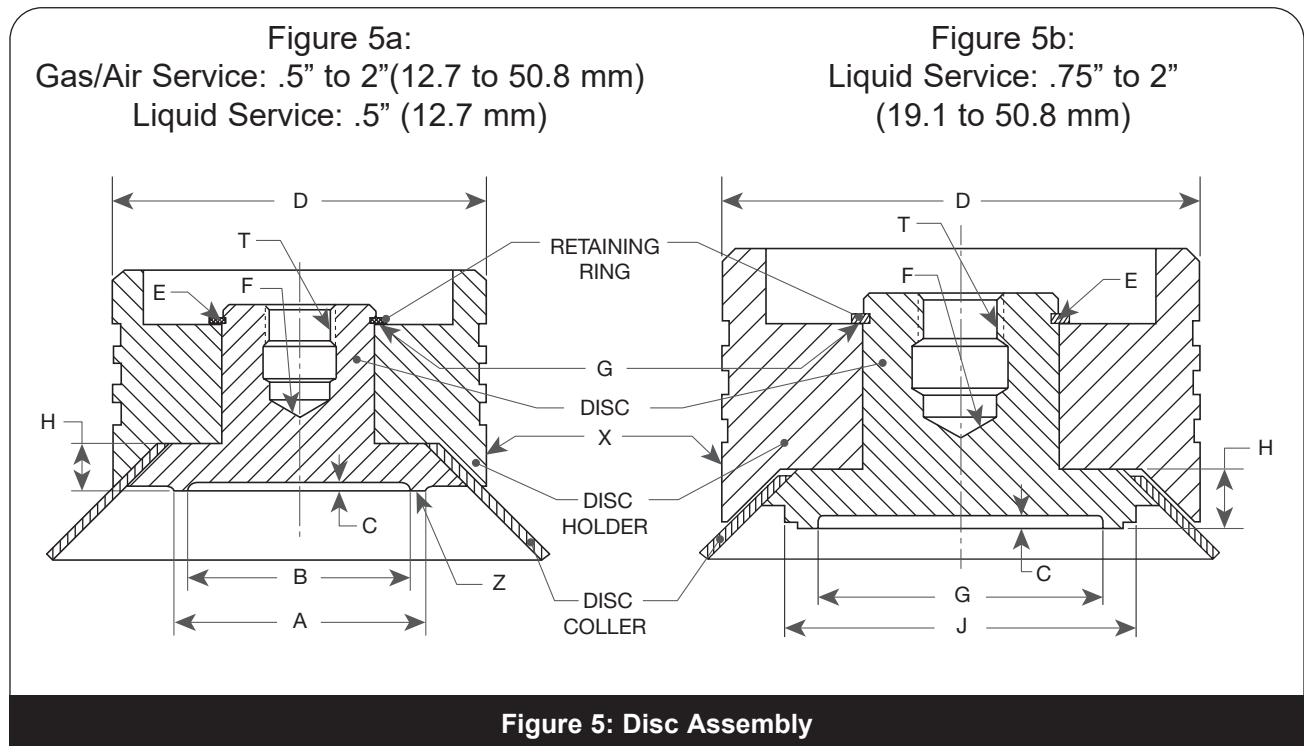

Figure 5: Disc Assembly
When the seats cannot be repaired by lapping, they can be remachined using dimensions given in Figure 5 and Table 1. The following procedure can be used when machining the base seat:
- Take light cuts on the seat surface until all damage is removed. Reestablish dimensions as shown in Figure 5 and Table 1.
2. Disc Holder Replacement criteria, Figure 5 and Table 1
- Outside diameter (D) is galled or exceeds minimum dimension. It requires 32 RMS finish.
- Retainer ring shoulder (G) is worn.
- Exceeds dimensions mentioned in Table 1 and Figure 5.
3. Disc Replacement Criteria, Figure 5 and Table 1
- a. Seat surface (Z) is nicked, or dimension (C) is reduced to .025" (0.64 mm).
- b. Spindle pocket surface (F) is pitted or galled, it requires 63RMS finish.
- c. Threads (T) are torn, galled or stripped.
- d. Retainer Ring groove (E) is worn.
- e. Disc height (H) exceeds minimum dimension.
- f. Exceeds dimensions mentioned in Table 1 and Figure 5.
4. Disc Retainer Replacement criteria, Figure 5